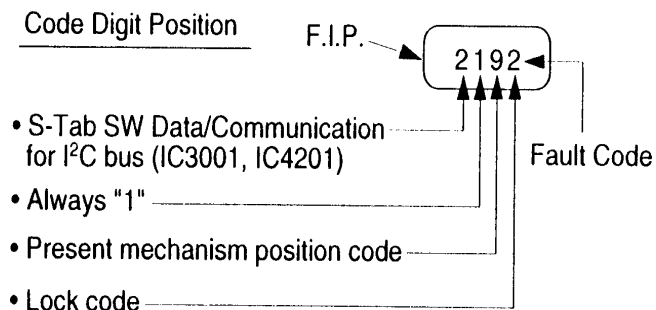

Fig. 24 - Simplified Fault Finding Data
2. The failure code will be displayed as shown in Fig. 24.